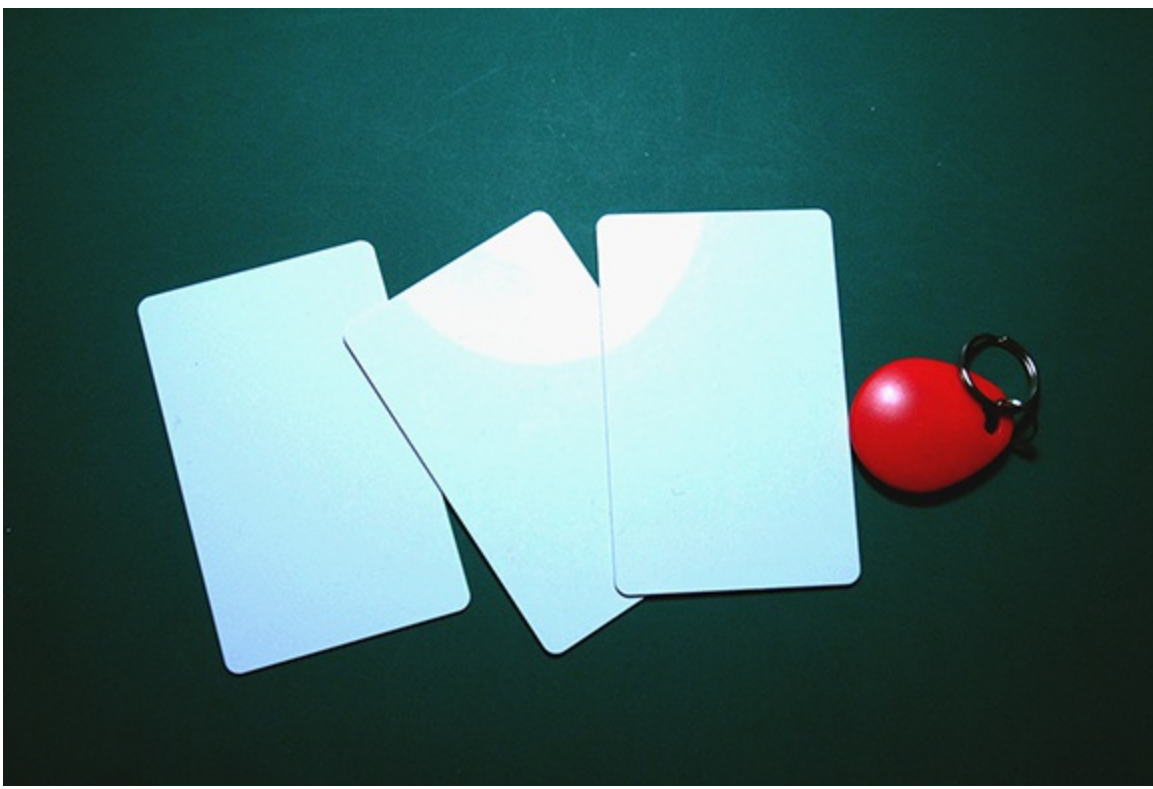
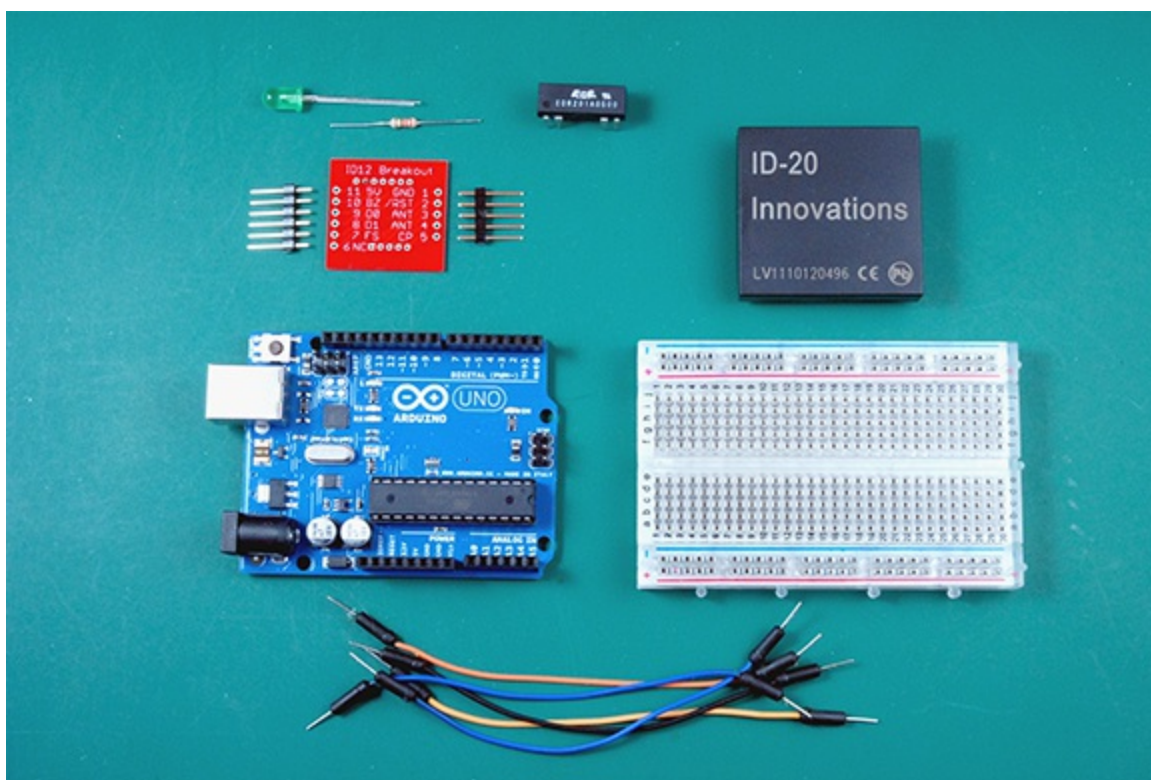

Figure 9-1: Examples of RFID tags.
Figure 9-2: The parts you need for your RFID reader.
The tag is an electronic circuit that is usually embedded within some kind of practical physical package, depending on the particular application. Figure 9-1 shows some examples. For security access, the circuit is embedded into plastic cards the same size as credit cards, which are easy to carry around in wallets and purses. Other examples include key fobs and self-adhesive labels. The variety is almost endless. Thinner and cheaper systems are used for inventory control. More expensive and bulkier systems are used for things such as shipping container tracking and electronic toll road systems, including SpeedPass or E-ZPass.
The parts you need to build the reader are shown in Figure 9-2. This list only includes the parts for the reader, but you also need a tag or tags to read. You can choose from literally hundreds of RFID tags. The key fob 125kHz RFID tag shown in Figure 9-1 would work just fine.
- ✓ A 125kHz RFID tag, such as the key fob tag shown in Figure 9-1 (Cool Components #000648). SparkFun sells a plain white credit card style tag, too (SparkFun #COM-08310).